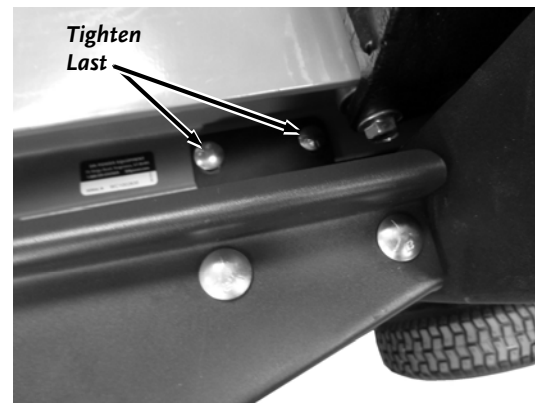

Figure 8
5. Last, tighten the four Bolts and Locknuts that secure the Cradle Extension Mounts to the Beam (**Figure 8**).